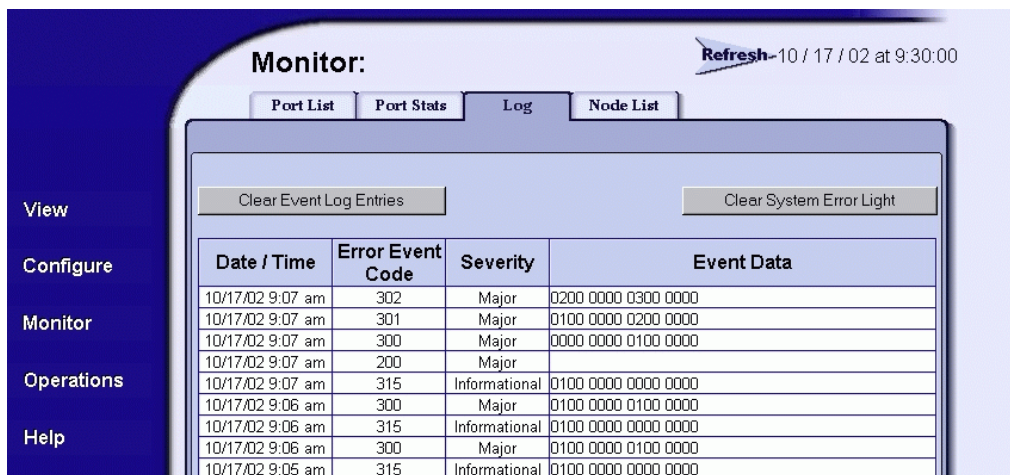

Figure 3-5 Monitor Panel (Log Tab)
- At the *Monitor* panel, click the *Log* tab. The *Monitor* panel (*Log* tab) displays (Figure 3-5).